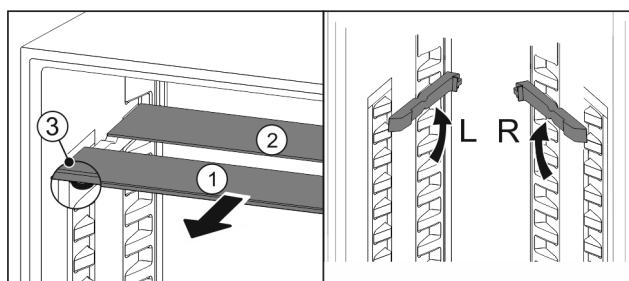

Fig. 35
- Pull the glass panels out Fig. 35 (1) from the front, one at a time.
- The glass panel Fig. 35 (1) and trim strip are at the front.
- The stops Fig. 35 (3) point down.